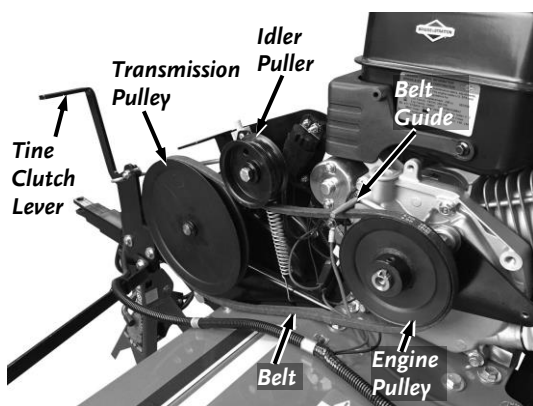

Figure 21
- Do not move or remove the belt guide (**Figure 21**). If you accidentally alter the position of the belt guide, return it to the correct setting of 6-1/4" vertical inches from the fender to the bottom of guide.
3. Remove the worn Belt from the Engine Pulley and Transmission Pulley (**Figure 21**).